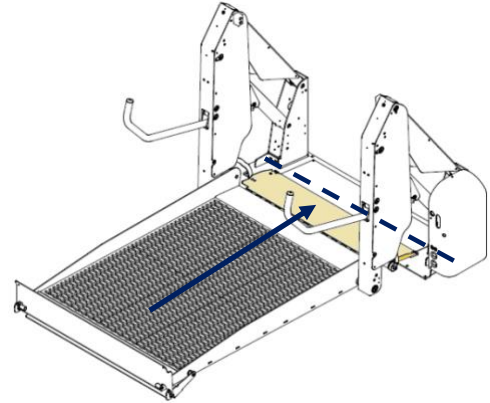

Fig 9.2.4 Platform at vehicle floor level
- Push and hold DEPLOY (Figure 9.2.2) button until platform stops at the horizontal loading position on the floor of the vehicle (Figure 9.2.4).